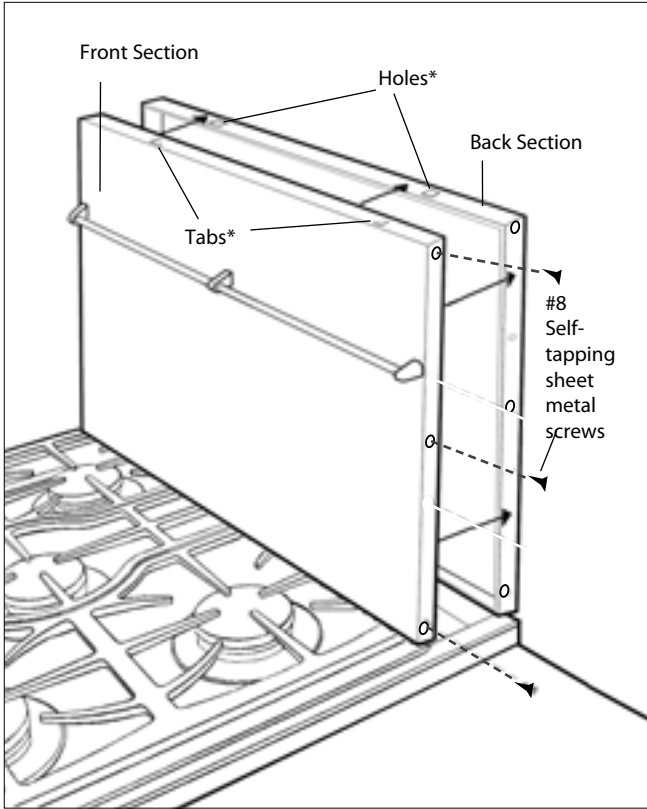

Fig.11
4. Bend wedge-shaped tabs down on top of the front section approximately 3/16". When mounting the front section, insure that these tabs engage the mating holes in the top of the rear section (see fig. 11).
5. Secure Front Section of backguard to the Back Section with #8 self-tapping sheet metal screws supplied (fig. 11).